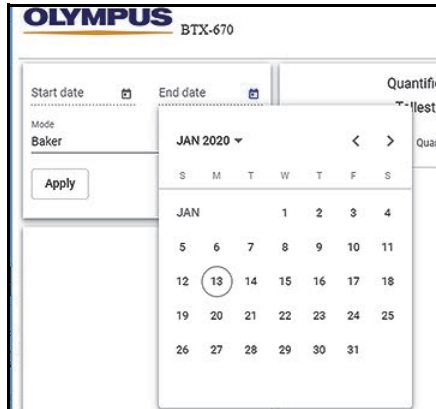

Figure 5-6 Date/Mode dialog box
2. In the **Date/Mode** dialog box (see Figure 5-6 on page 71), use the calendar to find results by date (optional).